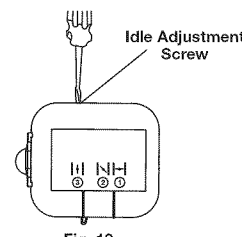

Fig. 19
The idle speed of the engine is adjustable. An idle adjustment screw is between the air filter cover and the engine starter housing (Fig. 19).
2. Release the trigger and let the engine idle. If the engine stops, insert a small Phillips screwdriver in between the Air Filter Cover and the Engine Cover (Fig. 19). Turn the idle speed screw 1/8 of a turn clockwise at a time until the engine idles smoothly.